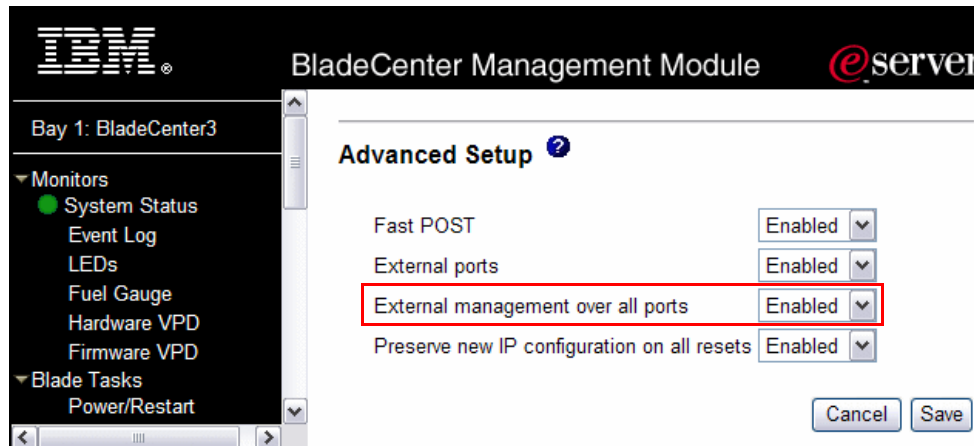

Figure 6-5 I/O Module Tasks: Management - advanced setup
2. If necessary, scroll down to the Advanced Setup section. You must at least set the External ports to Enabled for data to be sent out through the switch (Figure 6-5).